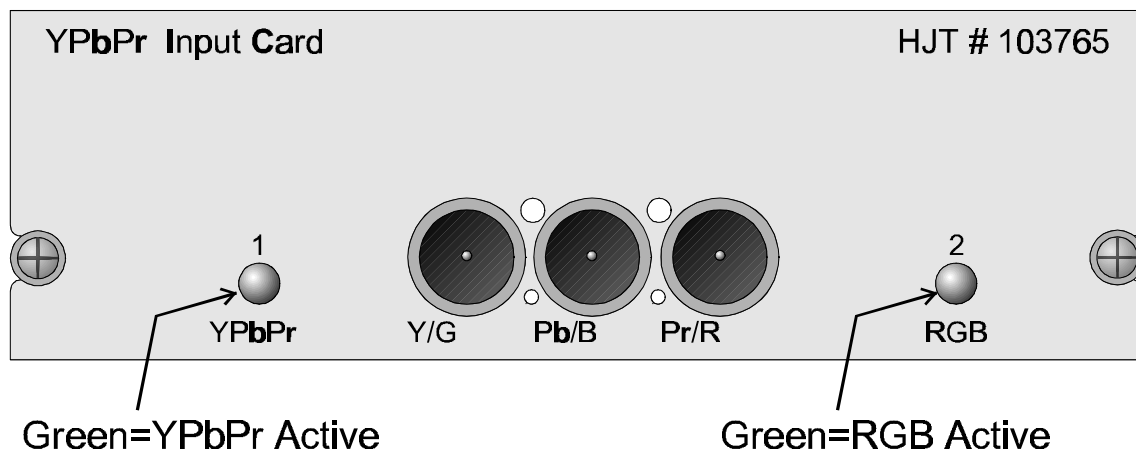

Figure 5-21 YPbPr VIC
- ❑ For **YPbPr VICs**, connect the three input cables to the appropriate input jacks (see Figure 5-21). Note that the Red, Green, and Blue input jacks are in a different order from the RGBHV VIC with Green at the left, Blue in the middle, and Red on the right. The YPbPr VIC uses the same circuitry and input jacks to process two different type of inputs; the GBR input and the YPbPr input. Only one of these inputs may be selected at any one time. The selection of one of these inputs is made by editing the second number in the VIC column (see editing VICs below) and using separate channels for their sources.